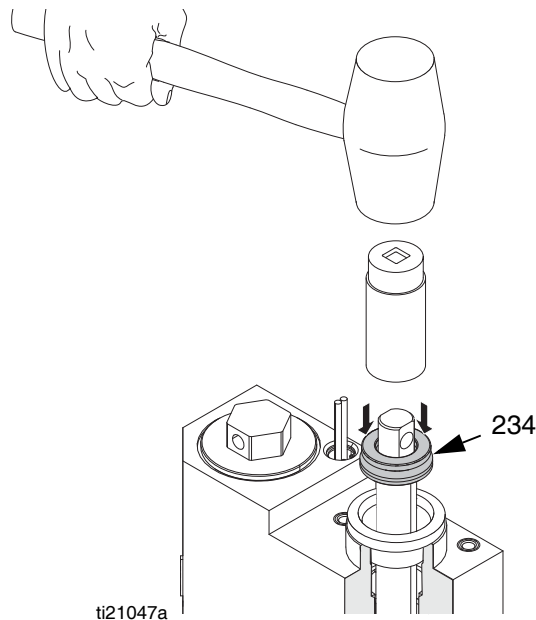

FIG. 31
2. Push the piston rod assembly (223) into the melter outlet manifold (203).
3. Grease the throat u-cup (234) and slide the u-cup over the piston rod (223) with the lips facing down.
4. Place a 7/8 in. deep-well socket (3/8 in. drive) over the piston rod (223) then use a rubber mallet to gently tap throat u-cup (234) into place. See FIG. 31.